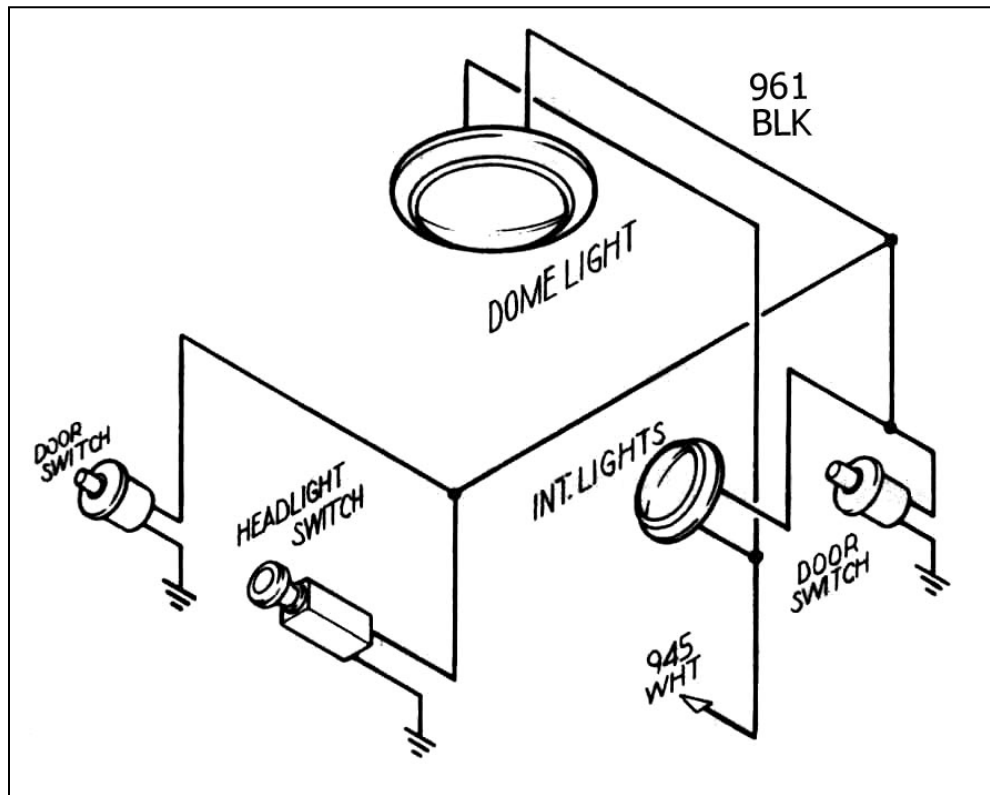

Figure 5-3 Interior Lighting (GM Style Jamb Switch – Painless Part #80170)
5.4 Interior Lighting. See Figure 5-3